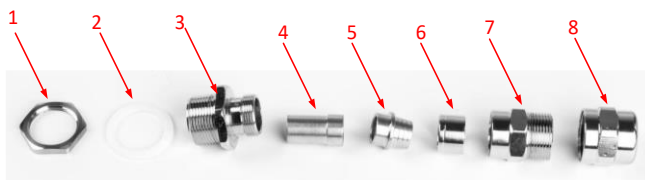

Figure 8
- (1) All parts of cable sealing joint are disassembled as shown in the Figure 8: